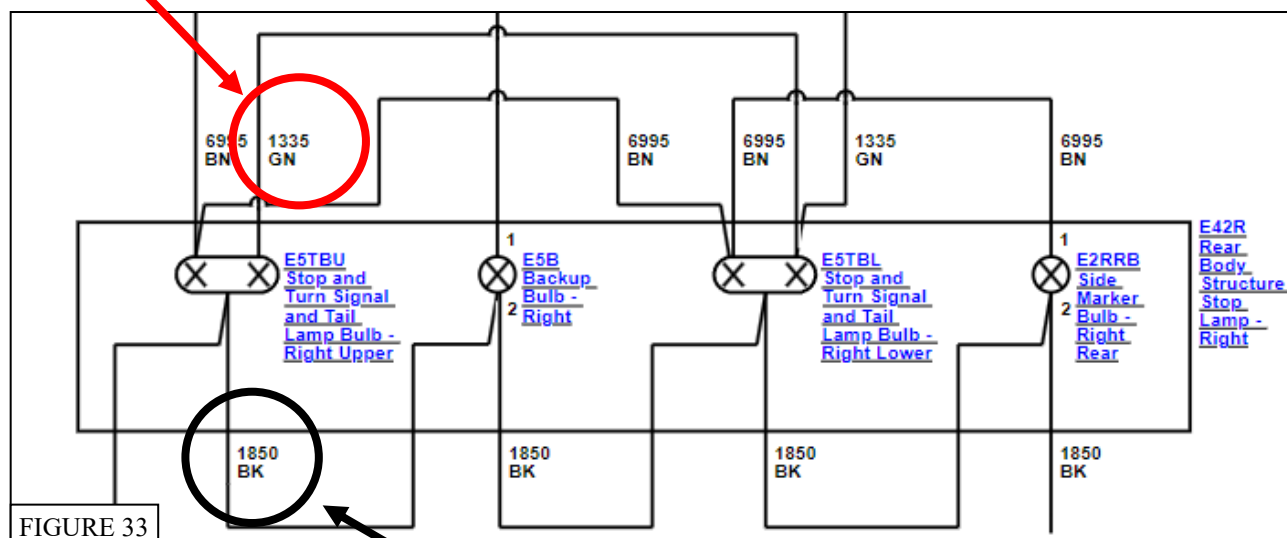

FIGURE 33
28. To find the specific vehicle wires to tap into, locate the black and green wires coming from the light's upper socket. Splice the topper's yellow wire into the socket's black wire and splice the topper's red wire into the socket's green. (**Fig. 33**)